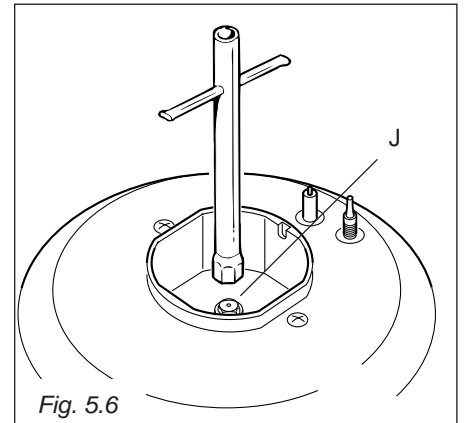

Fig. 5.6
- ✓ Using a wrench substitute the nozzle injectors "J" (fig. 5.6) with those most suitable for the kind of gas for which it is to be used.